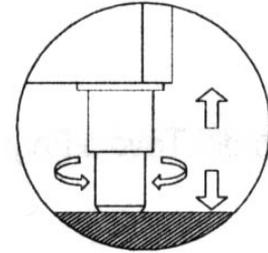

Fig.1
- Position the appliance with the help of a spirit level. If necessary, adjust the levelling feet of the unit (in the models fitted with adjustable feet) (fig.1)